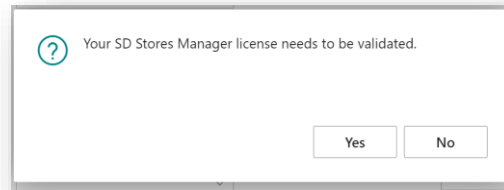

Figure 3-9
1. From the **Tell Me**, search for and select the **SD Stores Manager Setup** card. You will be prompted that “Your SD Stores Manager license needs to be validated.” Choose **Yes** (Figure 3-9).